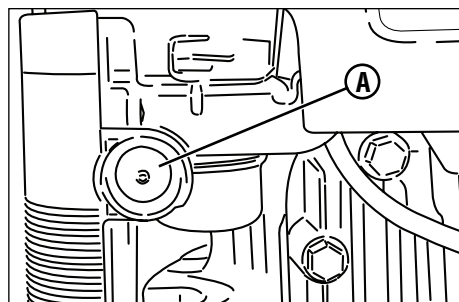

Figure 3: Engine primer
2. Push the primer button (**A, Figure 3**) three times to start a cold engine.